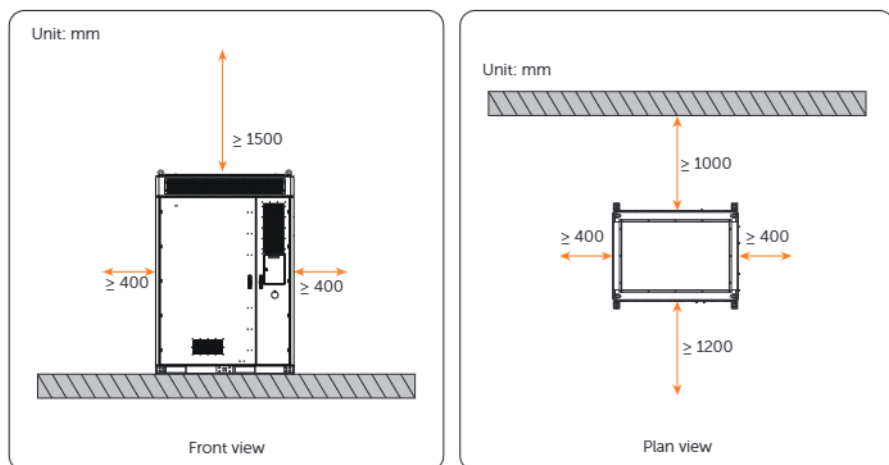

Figure 4-10 Single cabinet
- Single cabinet (see Figure 4-10)